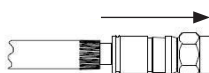

Fig. 3
6. Pull the connector off again and invert it through 180° (Fig. 3).